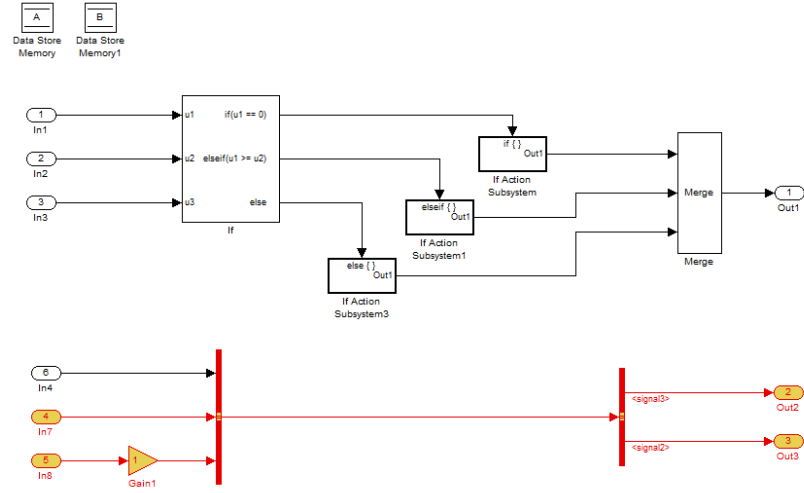

Figure 5: Resulting model after **Coreach From Selected** operation.
3. Let us perform a coreachability analysis to find all the parts of the model which the **Output** blocks **Out2** and **Out3** are dependent on. To do this, select both blocks, right-click on them, and select the **Coreach From Selected** option. The resulting model is shown in Figure 5. Blocks **Out2** and **Out3** are dependent on the **Inport** block **In7** and **In8** only, and it is interesting to note that **In6** has no impact in the model.